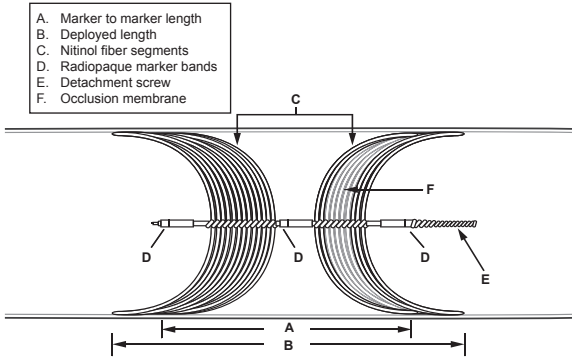

Figure 1: Caterpillar™ and Caterpillar™ Micro Device components
The Caterpillar™ and Caterpillar™ Micro Arterial Embolization Devices are self-expanding arterial occlusion plugs. The devices consist of the following components and are intended to be a permanent implant (**Figure 1**): cobalt-chrome stem, nickel-titanium fibers, platinum-iridium radiopaque marker bands, and a polyurethane and polyethylene occlusion membrane. These devices are intended for arterial vessel embolization in the peripheral vasculature.
1. The Marker to Marker Length is the distance between the most distal radiopaque marker band to the most proximal radiopaque marker band (Figure 1, A).
2. The Maximum Deployed Length is the length from the distal fiber tips to the proximal fiber tips in the minimum target artery diameter (Figure 1, B).